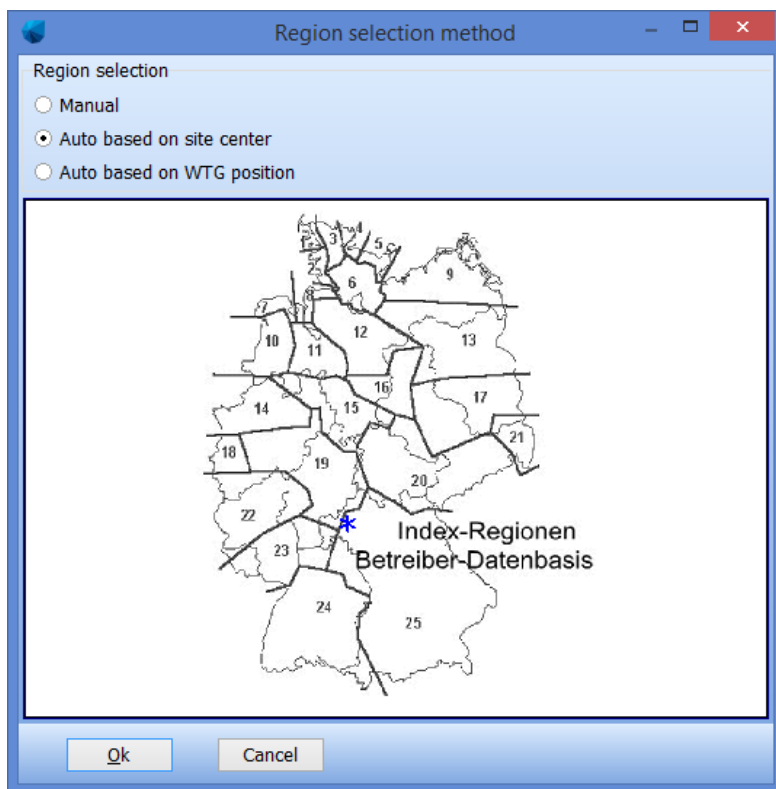

Figure 18: Identification of relevant region BDB index
**Option 2: Import/update online:** For some countries, there are “official” wind energy indices. So far, this online data includes only the DK-index. While the German BDB index is not included in windPRO and has to be added manually, windPRO assists in identifying the relevant region (Figure 18).